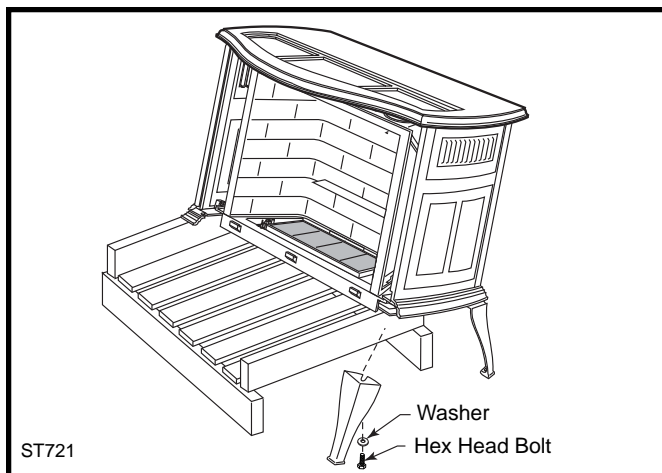

Fig. 8 Carefully tip stove onto back legs. Leave pallet under stove to keep stove from falling fully forward.
3. Carefully tip the stove onto its rear legs. Adjust the pallet to allow access to one of the front leg holes. Be sure to leave the pallet under the stove to prevent the stove from falling fully forward. (Fig. 8)